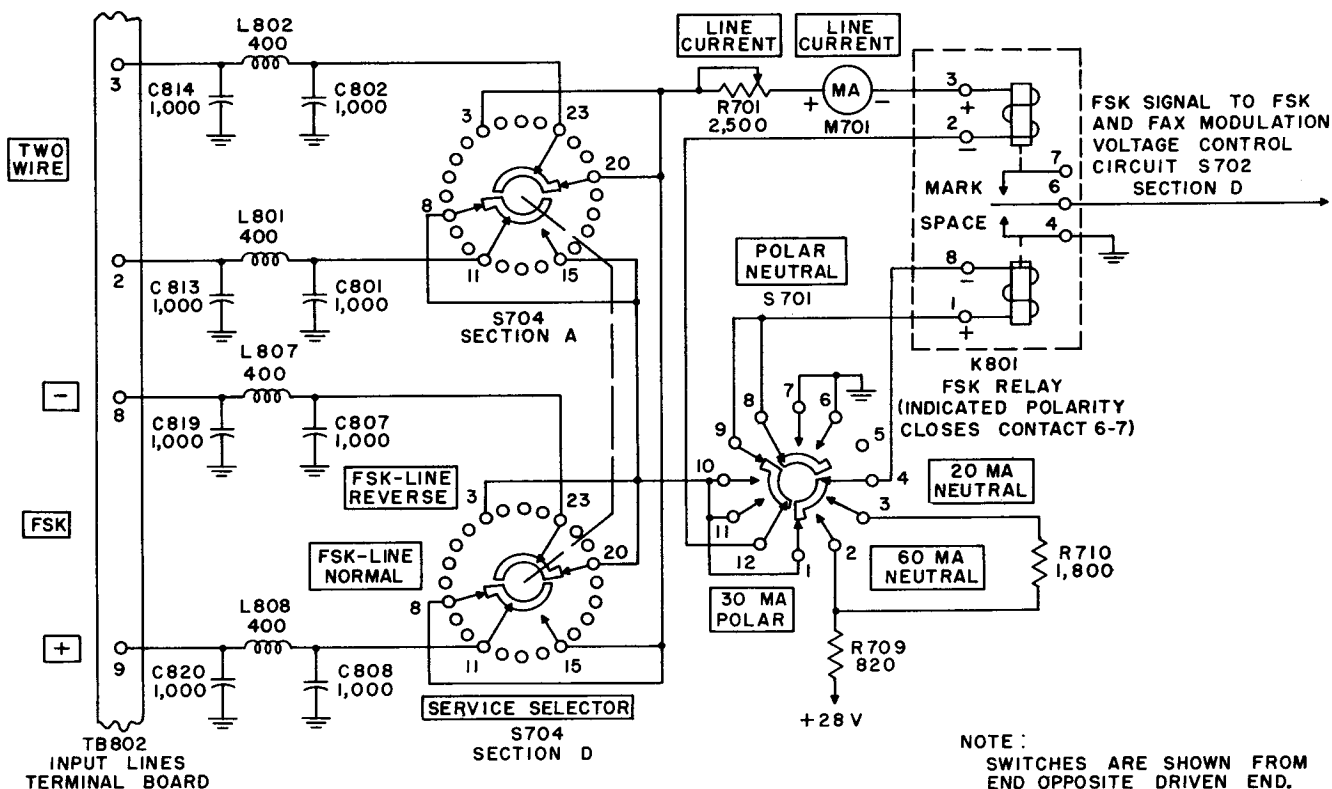

Figure 37. Fsk input circuit, simplified schematic diagram.
70. Fsk Input Circuit (fig. 37)